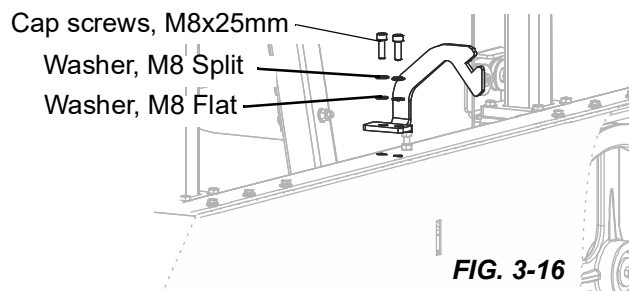

FIG. 3-16
- Install the sawhead cover latch using two M8x25mm cap screws. See Fig. 3-16.